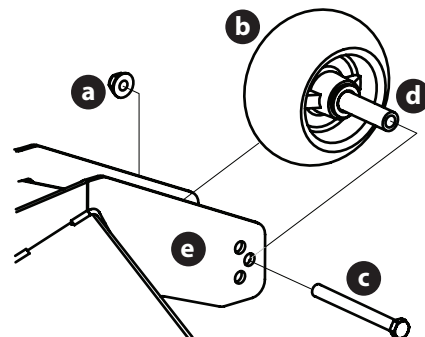

Figure 53
2. Remove the lock nut (a) securing one of the front gauge wheels (b) to the deck. Remove the front gauge wheel (b), hex screw (c) and spacer (d) (Figure 53).
3. Insert the hex screw (c) into one of the three index holes in the front gauge wheel bracket (e) that will give the front gauge wheel (b) a 1/4-1/2" clearance with the ground (Figure 53 on page 29).
4. Note the index hole of the just-adjusted front gauge wheel (b), and adjust the other front gauge wheel (b) into the respective index hole of the other front gauge wheel bracket (e) (Figure 53 on page 29).